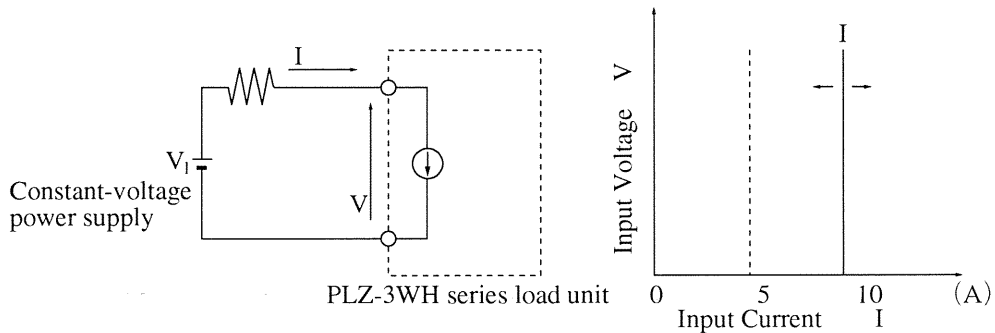

Fig. 4.3-1
■ **Basic operation of CC mode (see Fig. 4.3-1)**